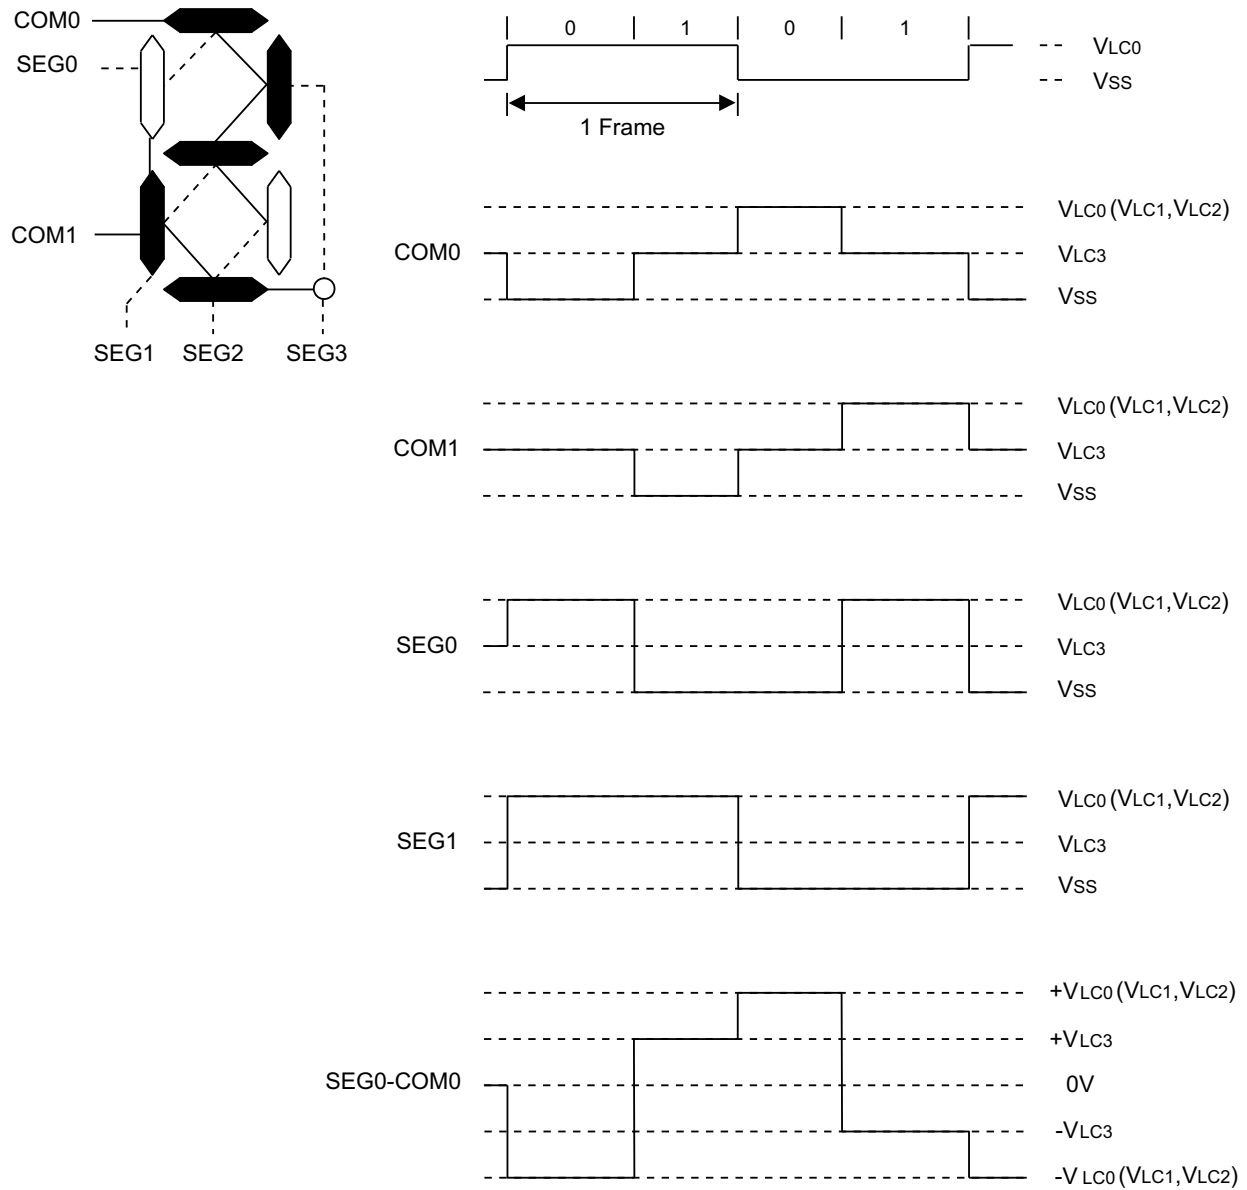

Figure 92. LCD Signal Waveforms: 1/3 Duty, 1/3 Bias
► **Note:** In Figure 92, $V_{LC0} = V_{LC1}$.